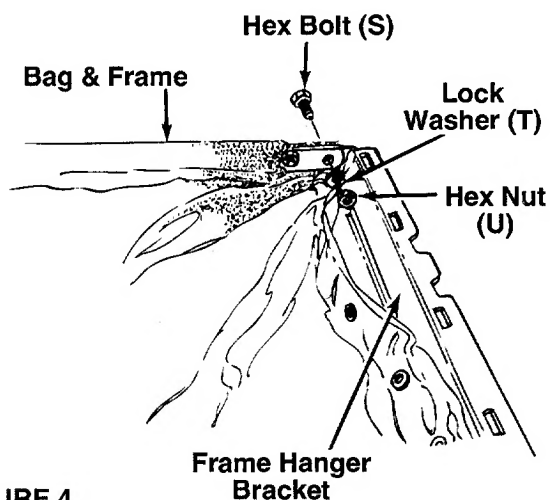
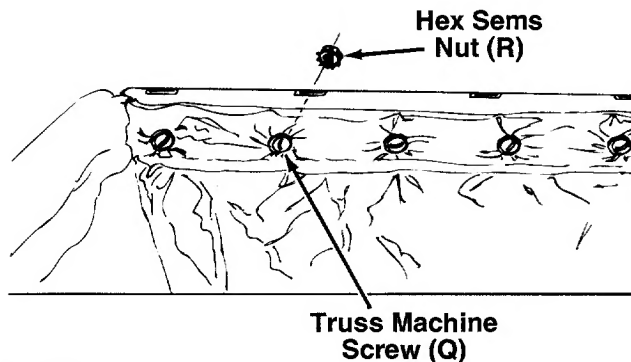

FIGURE 4.
FIGURE 5.
2. Attach one frame hanger bracket to the bag and frame as follows. See figure 4.
- b. The frame hanger bracket goes outside of the bag and the frame. The flange with the slots is the top of the hanger bracket. Working on one side, line up the holes in the frame and bag with the holes in frame hanger bracket. Secure hex bolts (S), lock washers (T) and hex nuts (U), finger tight only. The head of the bolts go to the outside of the bag.
3. Attach the front of grass bag to the hanger bracket with five truss machine screws (Q) and hex sems nuts (R). The heads of the screws go on the inside of the bag as shown in figure 5.